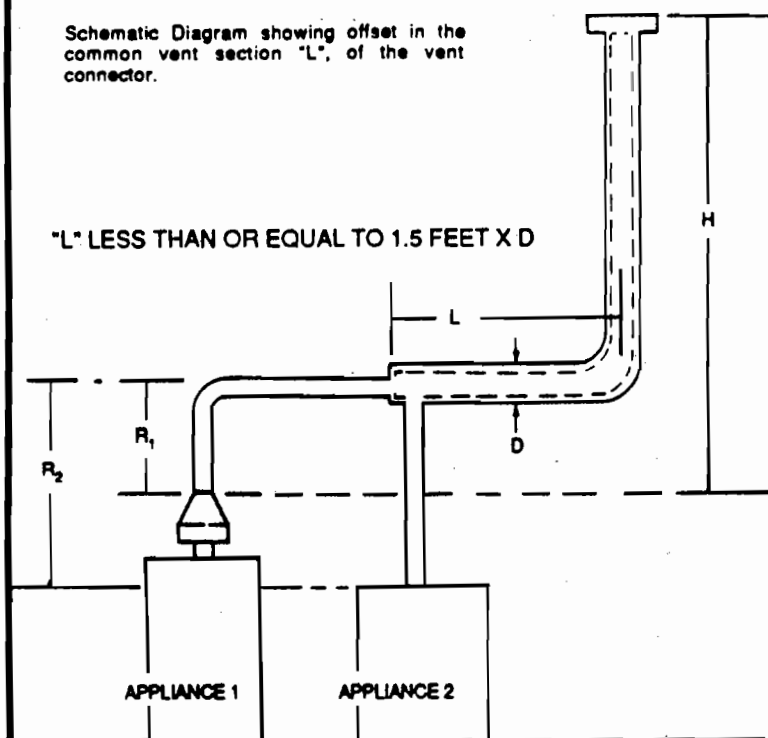

FIGURE 7
- 4) If vent connectors are combined prior to entering the common vent, the maximum common vent capacity listed in the common venting tables must be reduced by 10% (0.90 x maximum common vent capacity). See Figure 7. The length of the common vent connector offset (Lo) should not exceed 1-1/2 feet (18 inches) for each inch of common vent connector diameter.